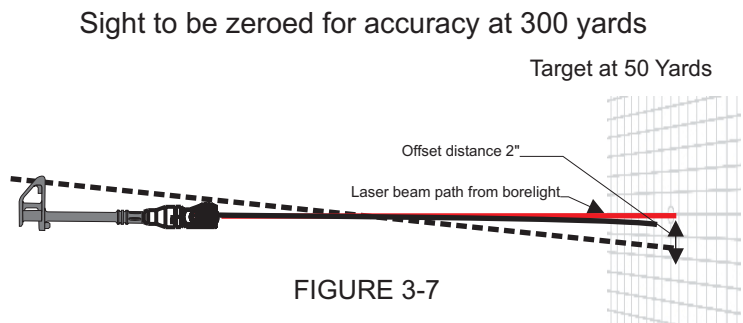

FIGURE 3-7
- b. the **Expected Trajectory Height above the line of sight** at 50 meters from the ballistics table for the range at which you want to align your weapon sight. This height according to the ballistics table is **1.56 inches**. See **Figure 3-7 & 3-8**.